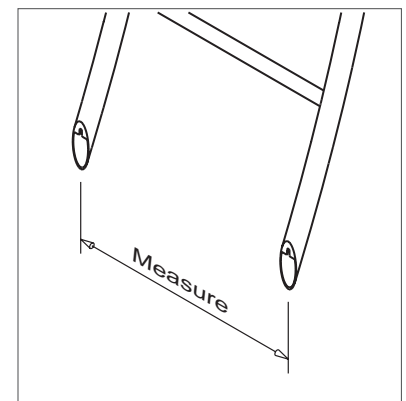

Fig 2.0
- Fix the second screw, level with the first, at the distance measured in Fig 2.0.